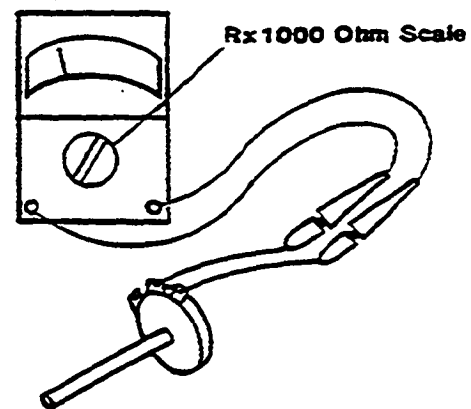

Figure 5-8. Potentiometer Test Connection
7. Remove potentiometer and measure its resistance. The resistance should be between 10,000 and 15,000 ohms (see Figure 5-8).
Measure the resistance of the potentiometer. The resistance should be between 10,000 and 18,000 Ohms (see Figure 5-8).